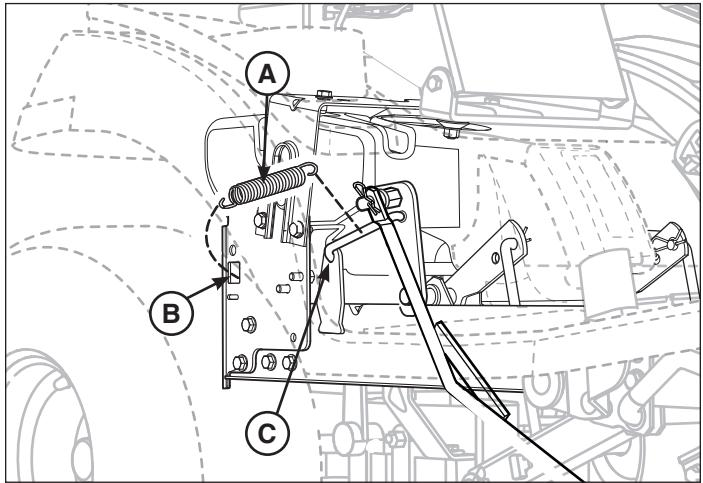

Figure 13
4. Install the extension spring (A, Figure 13) into square hole (B) at the rear edge of the tractor frame.
5. Secure the other end of extension spring to the "C" lift rod (C) on the mower deck lift arm.